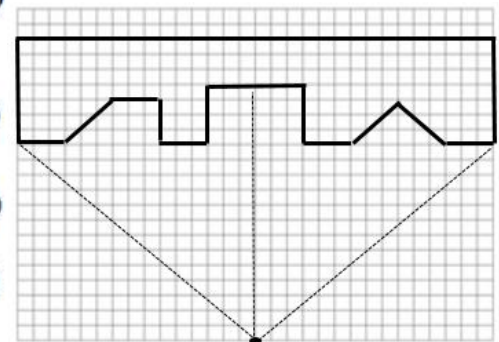

Figure 5(b)
- 5B. Figure 5(b) represents a thermal evaporation process with a point source. Is there any shadow region where no metal will be deposited? Determine the length of the wafer on which metal is deposited. Assume each cell size is  $1 \times 1 \text{ mm}$ .